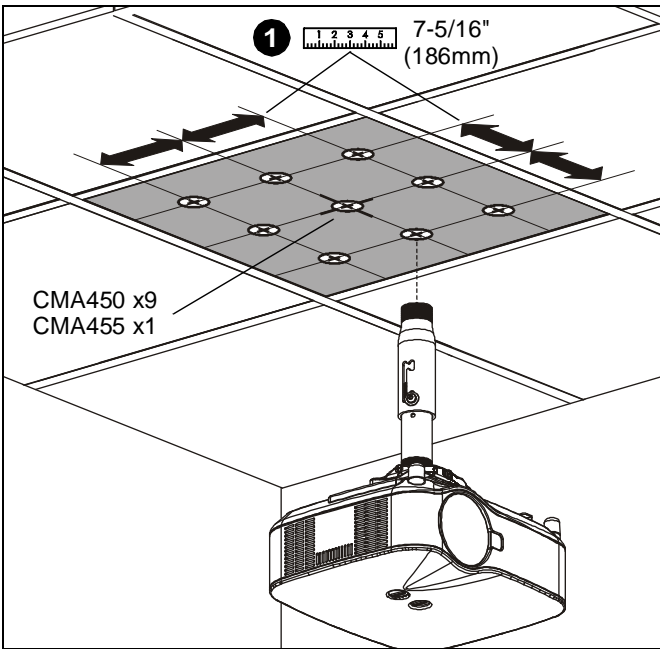

Figure 1
- The CMA450 can accommodate any one of 9 extension column locations (column not included) (See Figure 1), while the CMA455 can only accommodate a single column location (center).